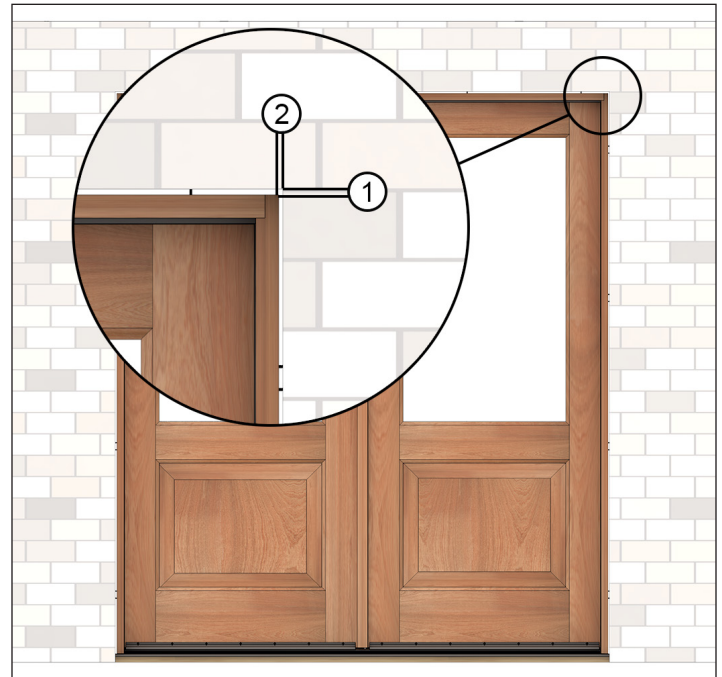

Figure 2 Rough Masonry Clearance
2. Masonry openings (MO) should be 1/4" (6) higher and 1/2" (13) wider than the outside measurement of the frame (1/4" on each side of the frame) or casing. See Figure 2.